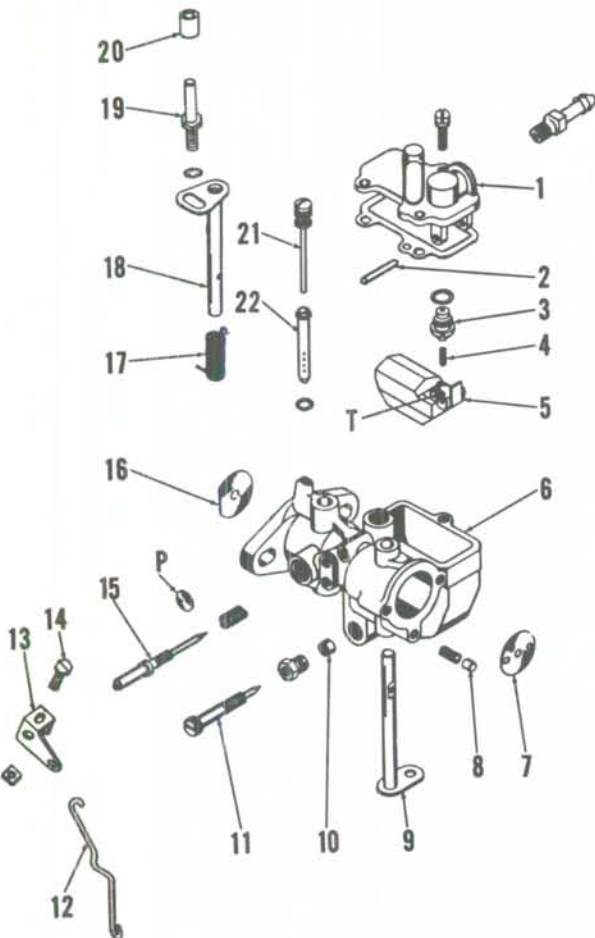

Fig. WB10A — Exploded view of Tillotson Type MT carburetor used on some motors.
Type MT: Refer to Fig. WB10A for exploded view. To adjust the float, remove float bowl cover (1) with float attached. Invert the cover and adjust the float by bending tang (T) until farthest edge of float measures 1 7/64-inch from gasket surface of bowl cover.
On models with Type MT carburetor, loosen the nut retaining follower stud (19—Fig. WB10A) to throttle shaft (18) and move stud in slot until roller (20) contacts cam at scribe mark. Tighten stud nut with slack removed. As speed control grip or lever is moved further to the "Fast" position, the throttle valve should start to open.